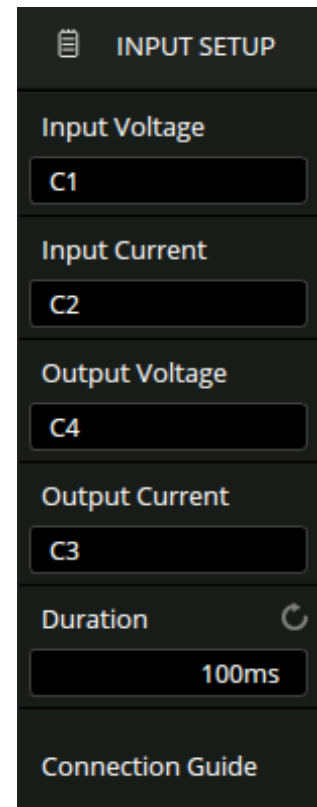

Figure 19.26 Input Setup Menu
1. Touch **Input Setup** to display the signal menu shown in figure 19.26.